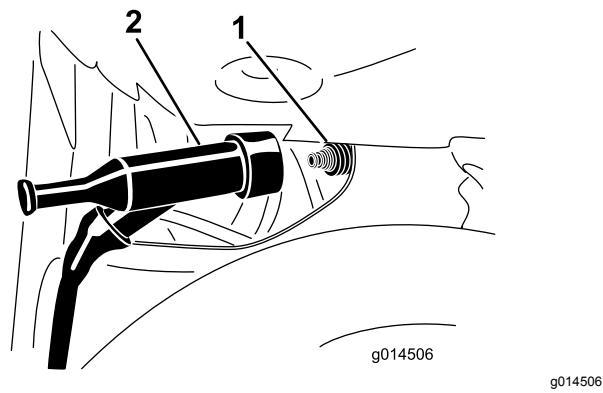

Figure 42
3. Pull the spark-plug wire off the terminal of the spark plug (Figure 42).
4. Push the spark-plug wire onto the terminal of the spark plug (Figure 42).